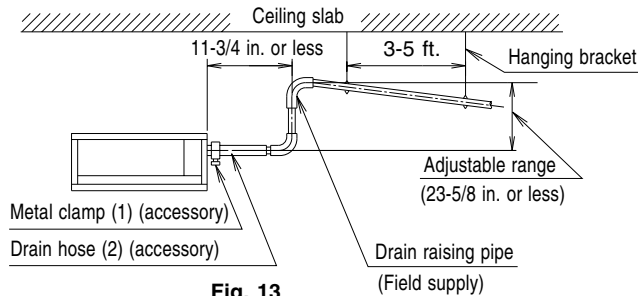

Fig. 13
- Place the drain raising pipe vertically and make sure it is no further than 11-3/4 in. from the unit. **(Refer to Fig. 13)**